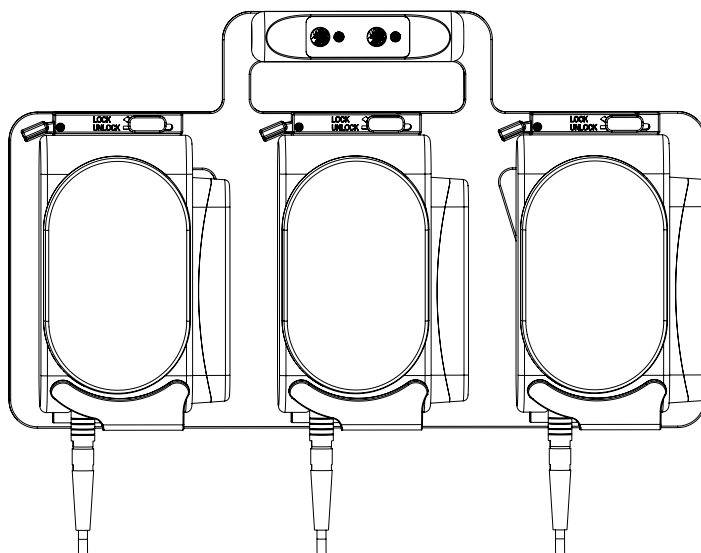

Figure 5: Infusion pumps installed in the Bracket Pro Serie 92 - GR3
7. Repeat steps 3 to 6 until all pumps have been installed (Figure 5).